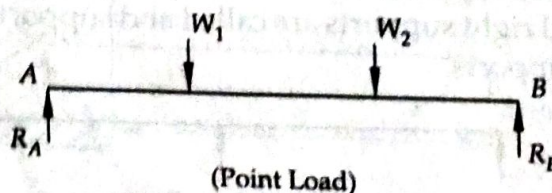

Fig. 39
1. Concentrated or point load: A load acting at a point on the beam is known as a concentrated or a point load as shown in Fig. 39.